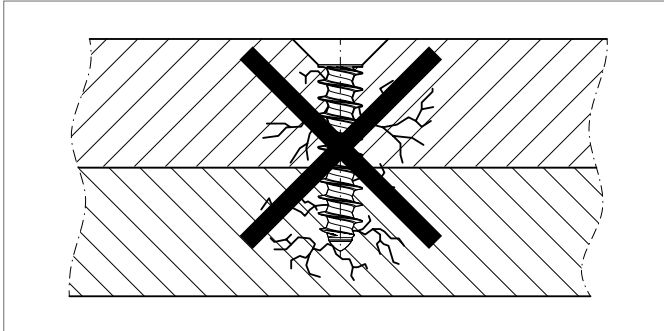

Abb. 8-1 Never screw in directly in a cutting manner
- Never directly screw into REHAU I HANEX materials in a cutting manner (notching effect) (Abb. 8-1)